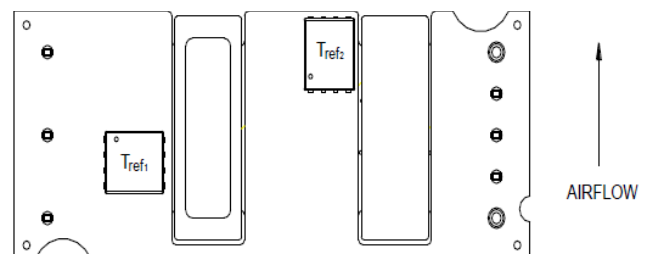
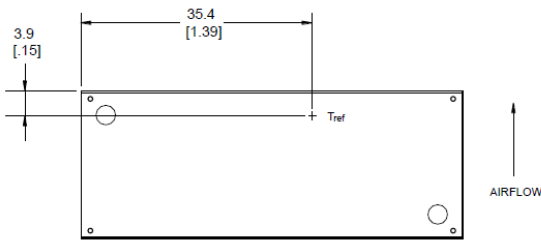

Figure 13. Tref Temperature Measurement Locations for Open Frame Module.
Figure 14. Tref Temperature Measurement Location for Module with Heatplate.
To provide protection under certain fault conditions, the unit is equipped with a thermal shutdown circuit. The unit will shutdown if the thermal reference point, T_{ref} , exceeds 135°C (Figure 13, typical) or 120°C (Figure 14, typical), but the thermal shutdown is not intended as a guarantee that the unit will survive temperatures beyond its rating. The module will Overtemperature Protection automatically restart upon cool-down to a safe temperature.
The thermal reference point, T_{ref1} and T_{ref2} used in the specifications for open frame module is shown in Figure 13. For reliable operation this temperature should not exceed 120°C and 124°C
The thermal reference point, T_{ref} , used in the specifications for modules with heatplate is shown in Figure 14. For reliable operation this temperature should not exceed 98°C.